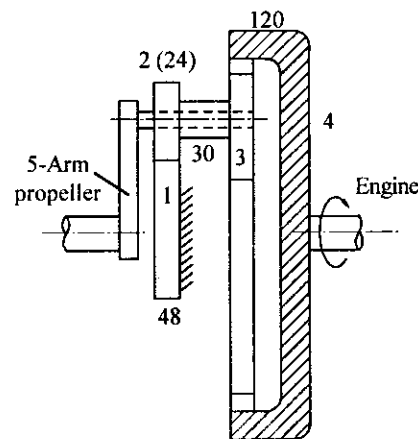

Fig. 7.42
2. An aircraft propeller reduction drive is shown in fig 7.42. Determine the propeller speed in magnitude and direction if the engine runs at 1500 rpm. The gears 1, 2, 3 and 4 have 48, 24, 30 and 120 teeth respectively. [Ans. 1000 rpm, direction is same as that of engine]